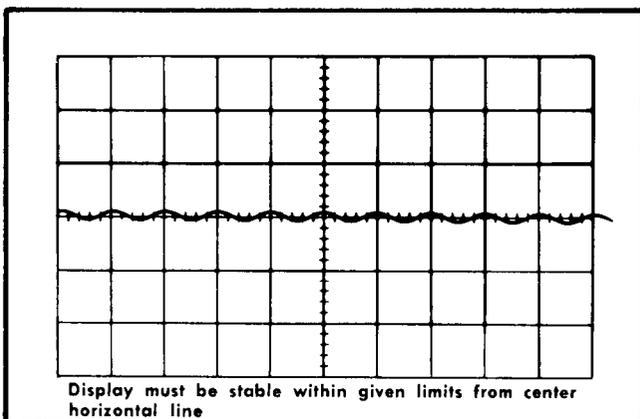

Fig. 5-10. Typical CRT display when checking trigger level centering.
h. CHECK-CRT display must be within one division of the center horizontal line (see Fig. 5-10). CH 1 light in both A and B Triggering must be on. This check indicates that the Channel 1 Trigger DC Level adjustment is set correctly.
k. CHECK-CRT display must be within two divisions of the center horizontal line (see Fig. 5-10). This check indicates that the Normal Trigger DC Level adjustment is set correctly.
l. Set the HORIZ DISPLAY switch to DELAYED SWEEP (B).